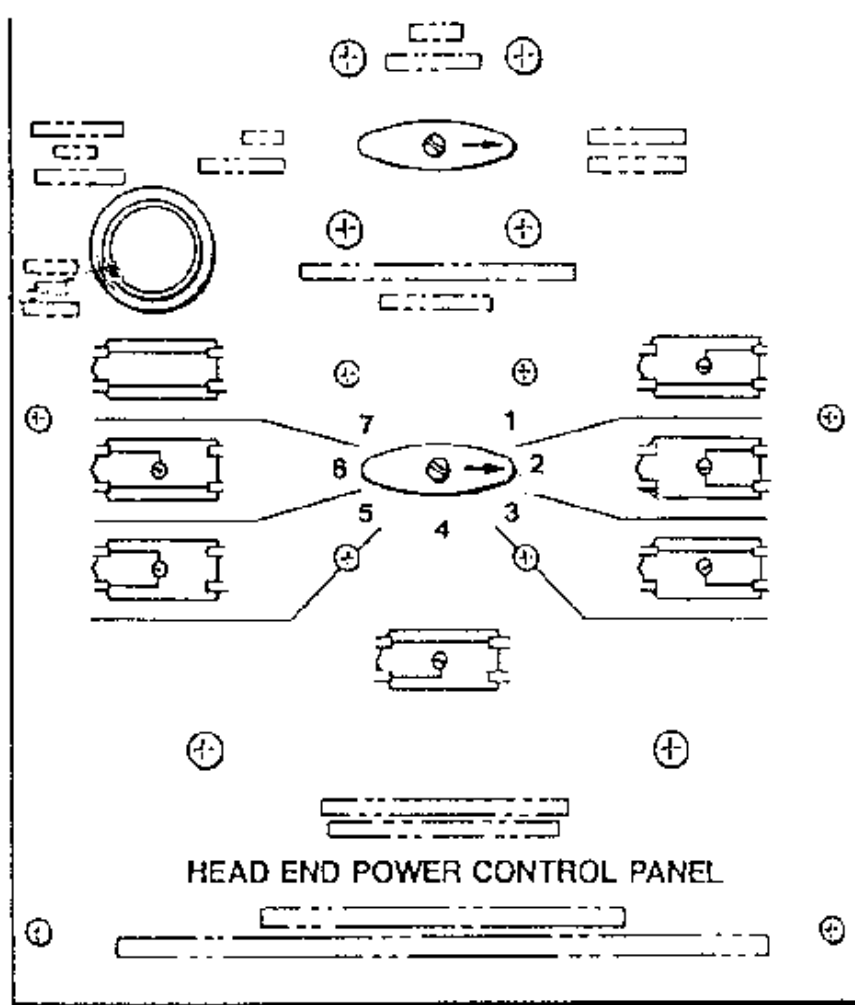

Fig. 3A-2 - Trainline Set-Up Switch
- b. Push the Enable Switch, and rotate the Trainline Setup Switch to whichever position corresponds to the configuration of the Head End Power connections (Figure 3A-2).